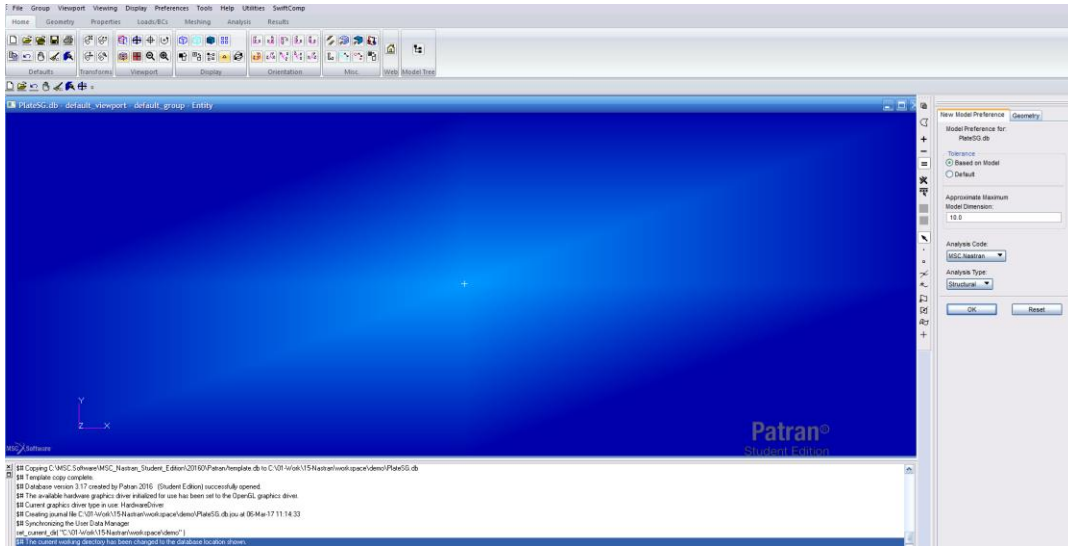
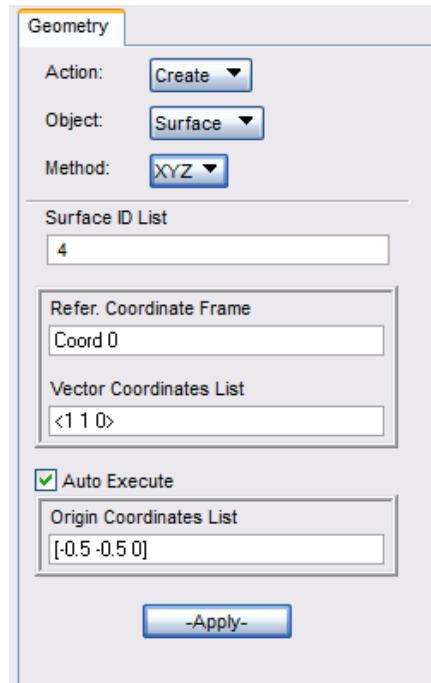
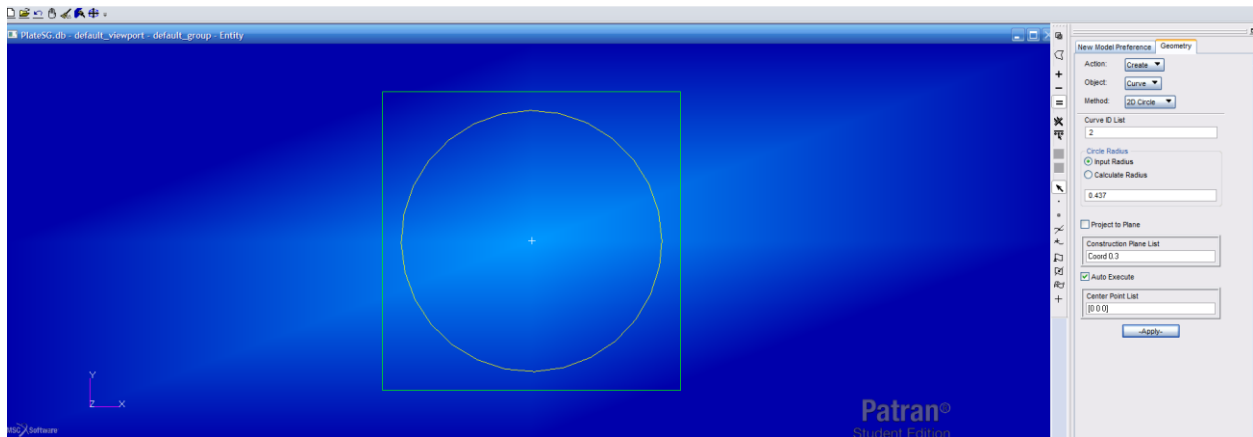

Figure 2. New Patran database named SP
Figure 3. Parameters for generating matrix of the SG
Figure 4. Generating fiber inside the matrix
We first need to build the SG model in Patran and use SwiftComp to carry out the homogenization. Open Patran and start a new database named SP as shown in Figure.2. Click *Geometry->Surface->XYZ*, then input the parameters shown in Figure. 3 to center the SG at the origin so that the reference surface is located in the mid-plane of the structure, and click apply. Next select *Curves->2D Circle*. Input the radius of fiber circle 0.437 as the volume fraction is 0.6 and click apply as shown in Figure. 4. If we define the length of each edge is a , the radius of fiber is r and the fiber volume fraction is v_f . The relation of radius and fiber volume fraction is given in Eq. (1)